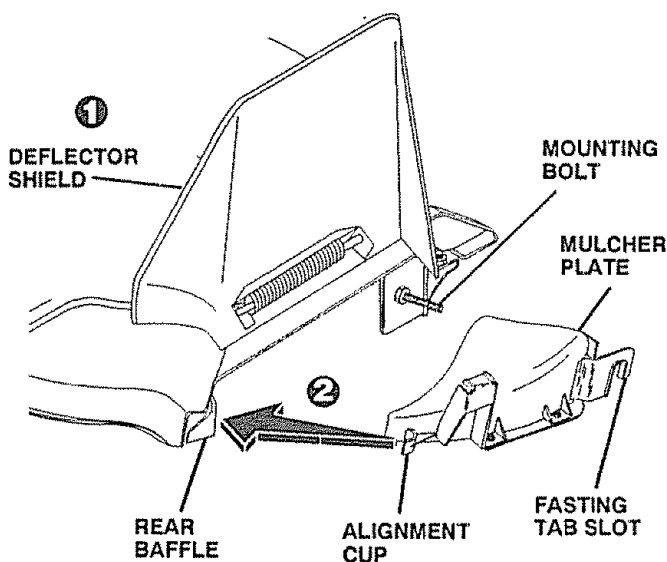

FIG. 6
### (See Fig. 6)
- Slide seat until a comfortable position is reached which allows you to press clutch/brake pedal all the way down (See Fig. 6).
## INSTALL MULCHER PLATE (See Figs. 6 & 7)